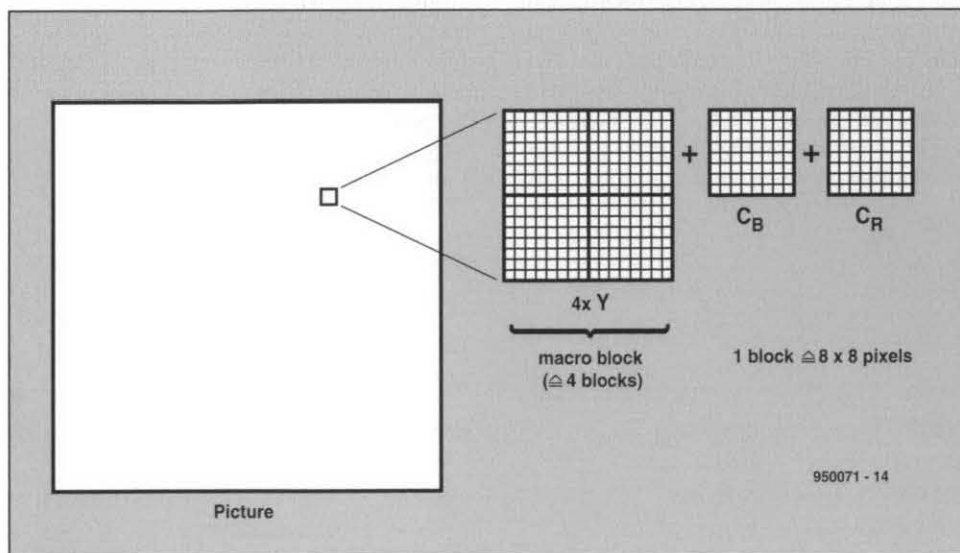

Fig. 4. Picture division in macro blocks and sub-blocks.
The data processing in an MPEG-2 encoder requires each original picture to be divided into a raster consisting of four macro blocks (Fig. 4). Each macro block consists of four sub-blocks of eight by eight picture elements each. The brightness signal (luminance) and the two colour signals (chrominance) are processed as blocks one after another. Associated with each macro block of 16 times 16 brightness values (Y) are two colour type blocks, C_b and C_r, each consisting of eight times eight colour values. This arrangement is referred to as 4:2:0 format by the experts. The 4:2:2 format of the High Profile (Table 1) is obtained by adding four instead of two colour blocks to each macro block. The result is a better colour resolution. The MPEG encoder described below processes each of these luminance and chrominance individually, and in succession.